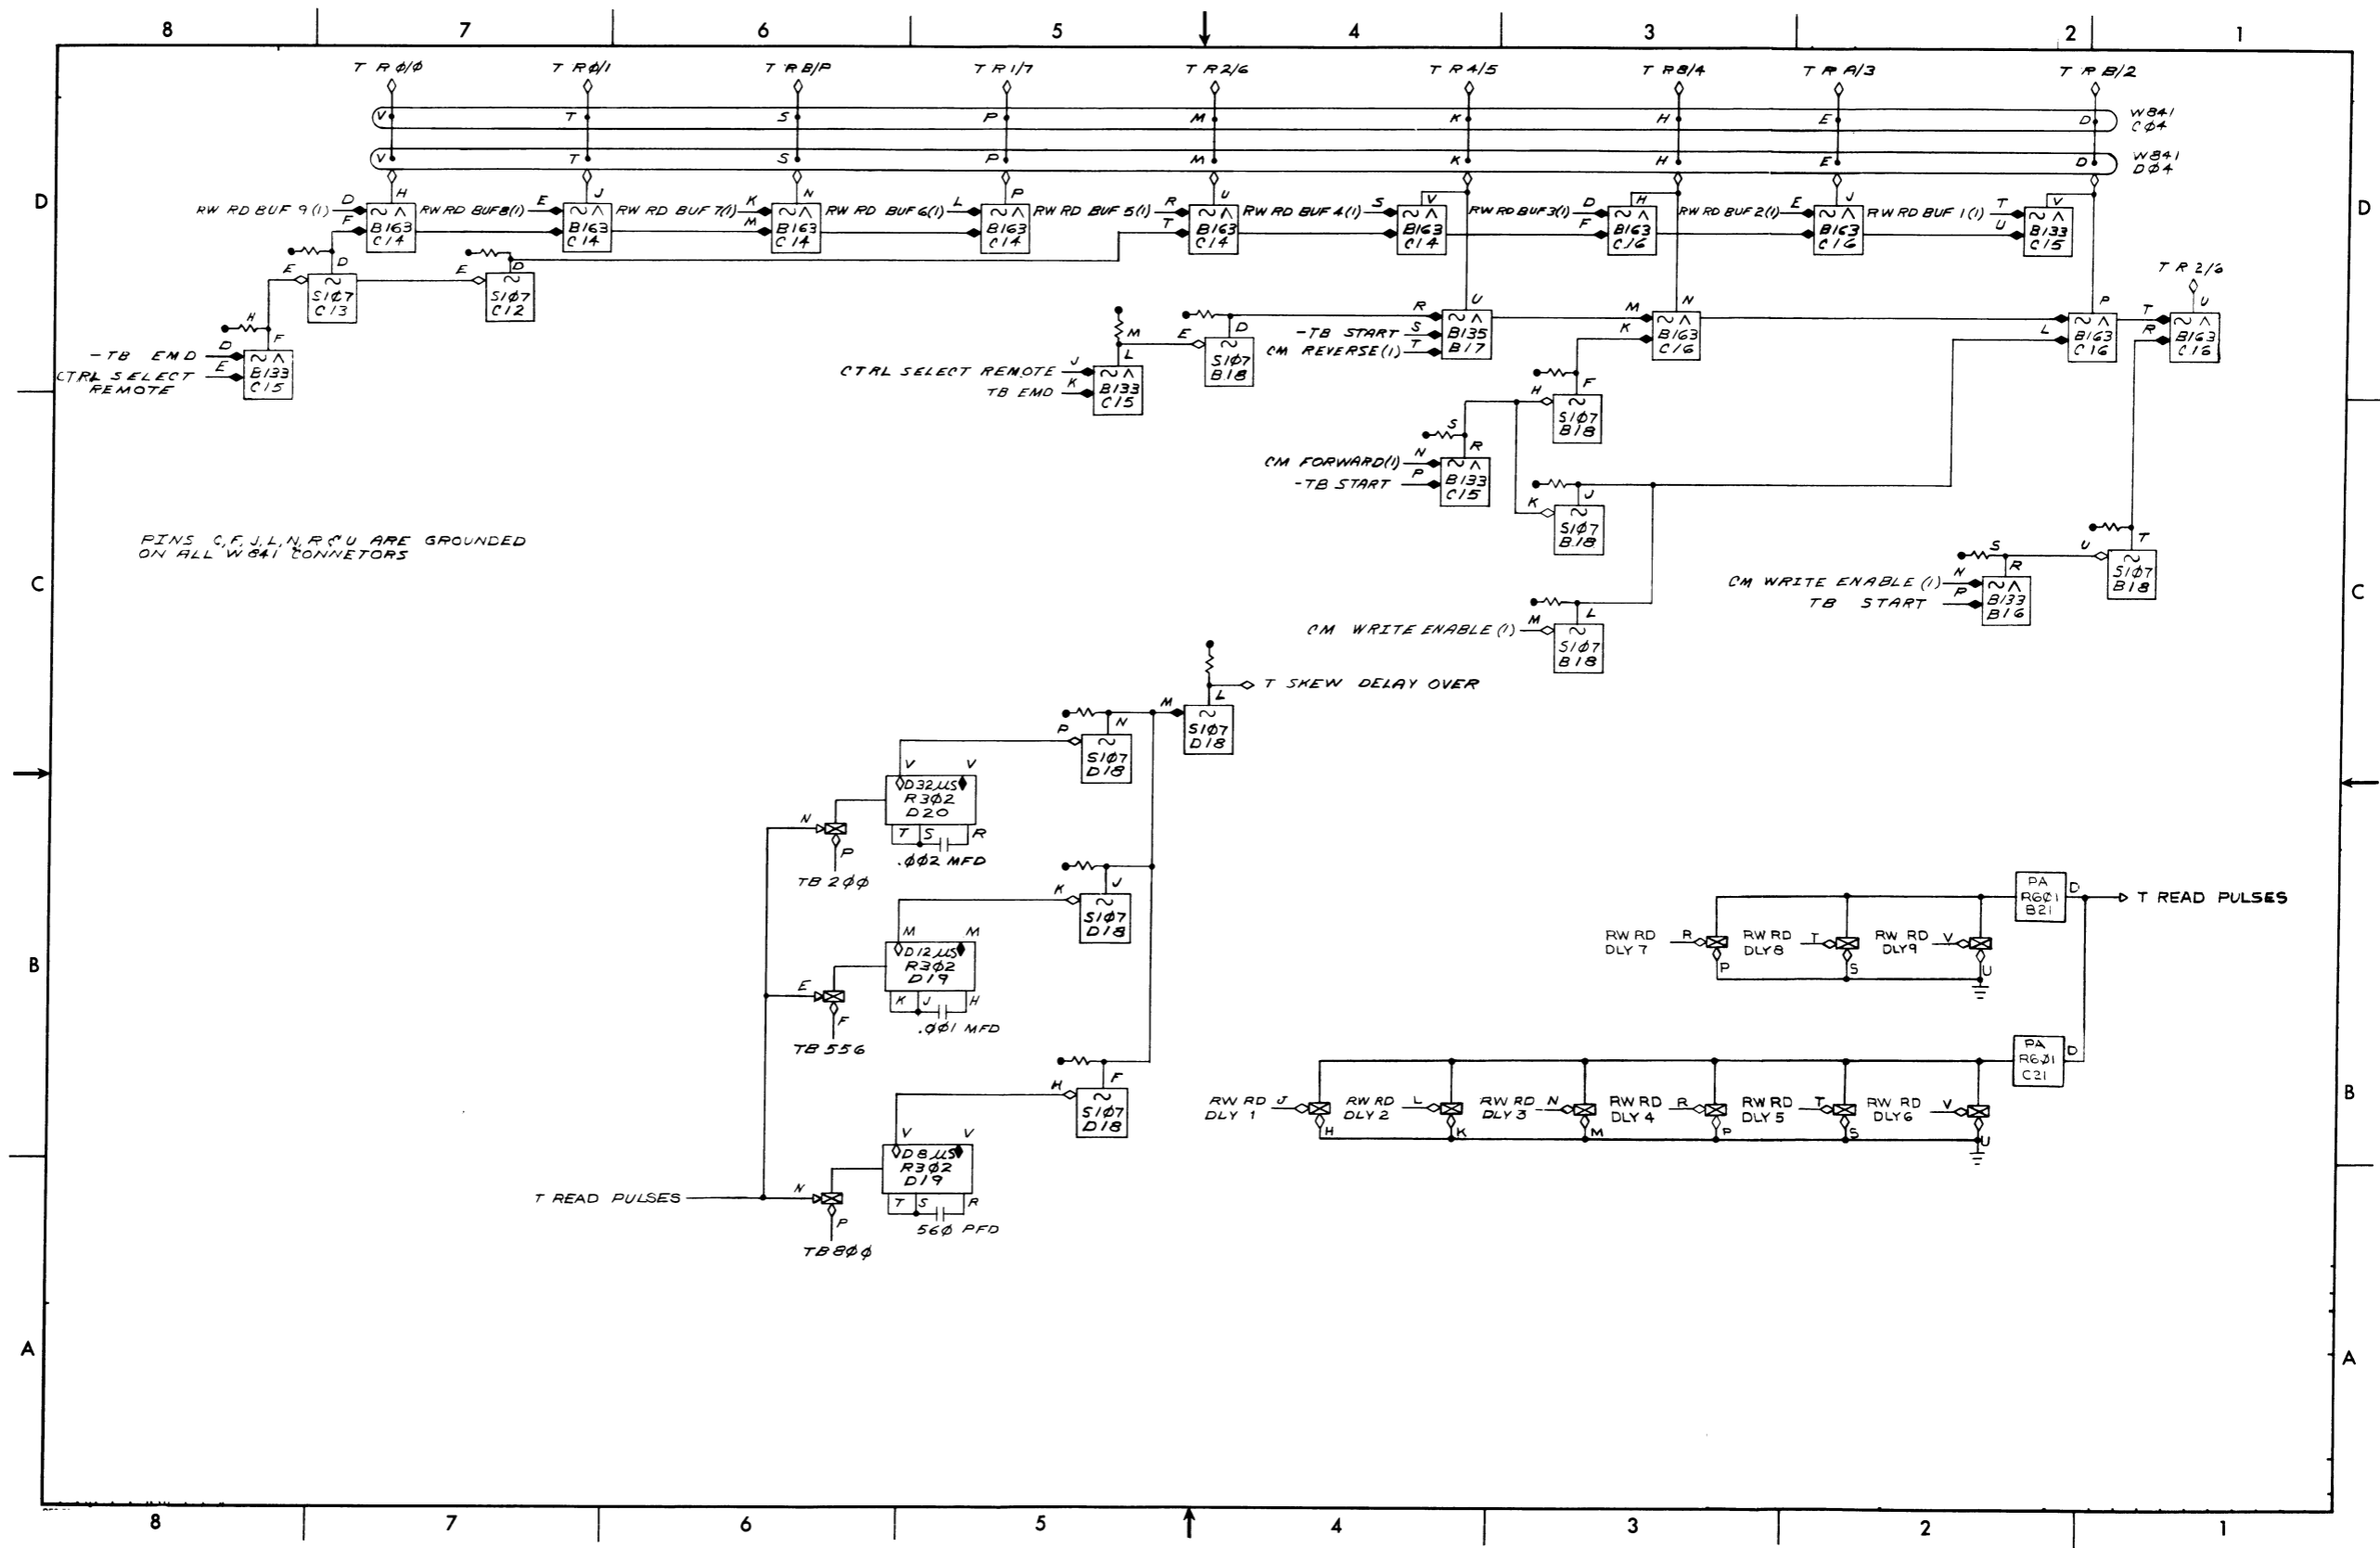

Figure 4-4 Timing Logic Block Diagram
**4.1.1.4 Timing (T) -** The Timing functional block (Figure 4-4), as the name implies, performs all timing